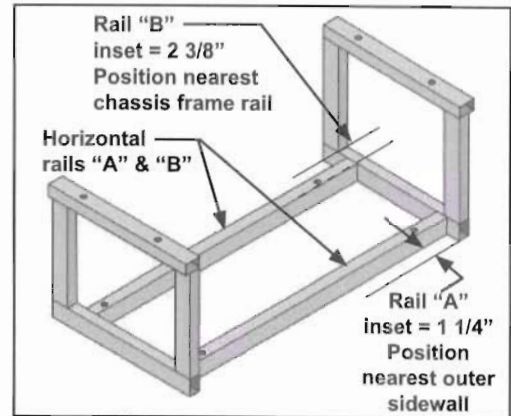

Figure 4
- Refer to Figure 4 to determine the correct installation position of the entry step cage: